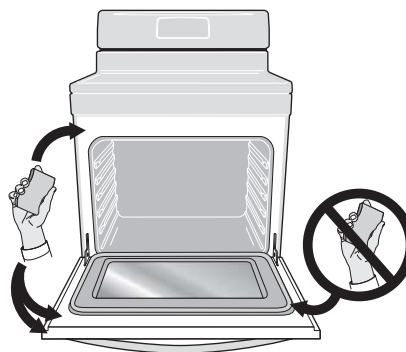

Figure 16: Do not clean the oven door gasket
12. Wipe oven cavity and bottom. Do not clean oven door gasket (See Figure 16).